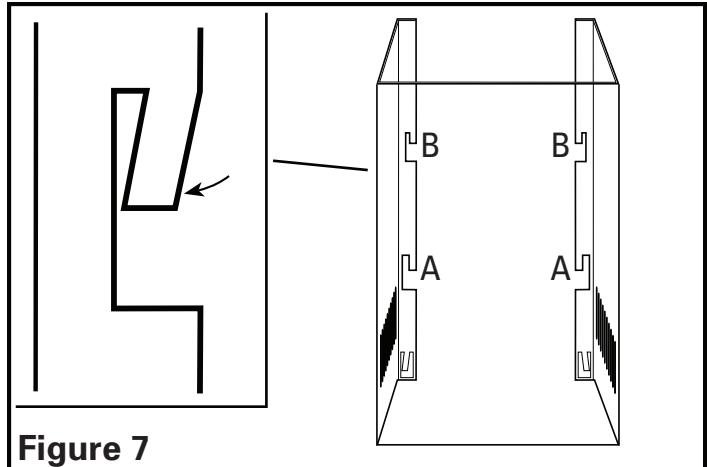

Figure 7
- Press in appropriate tabs on lower chimney section (section with vent holes). If using the upper chimney, press in tabs in middle of the chimney (Position A), otherwise press in tabs at top of the chimney (Position B). Press in tabs at the bottom of the chimney so there is approximately 1/4" of clearance (**Figure 7**).